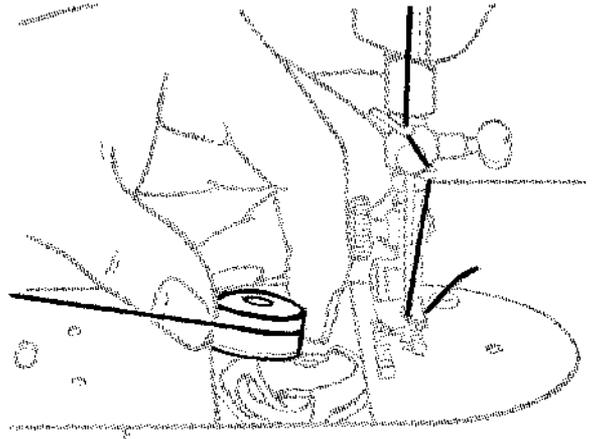

FIG. 27.
- Hold bobbin so that thread leads off in direction shown in Fig. 27.